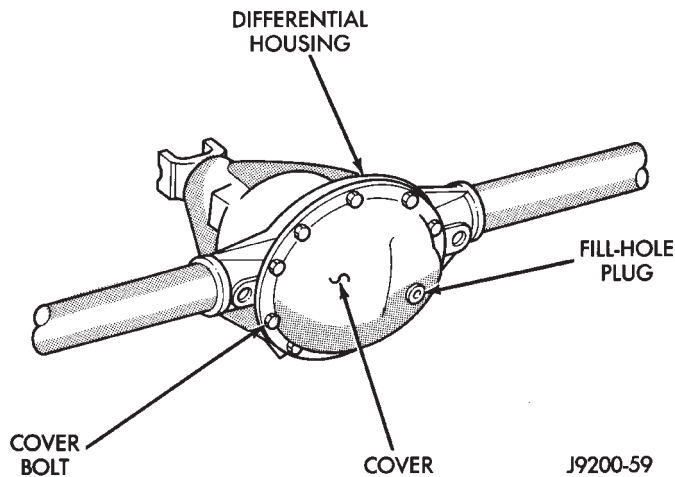

Fig. 6 Rear Axle—Typical
- (1) Raise and support the vehicle.
- (2) Remove the fill-hole plug (Fig. 6 and 7) from the axle differential housing cover. The gear lubricant should be 13 mm (1/2 inch) below the bottom edge of the fill hole.